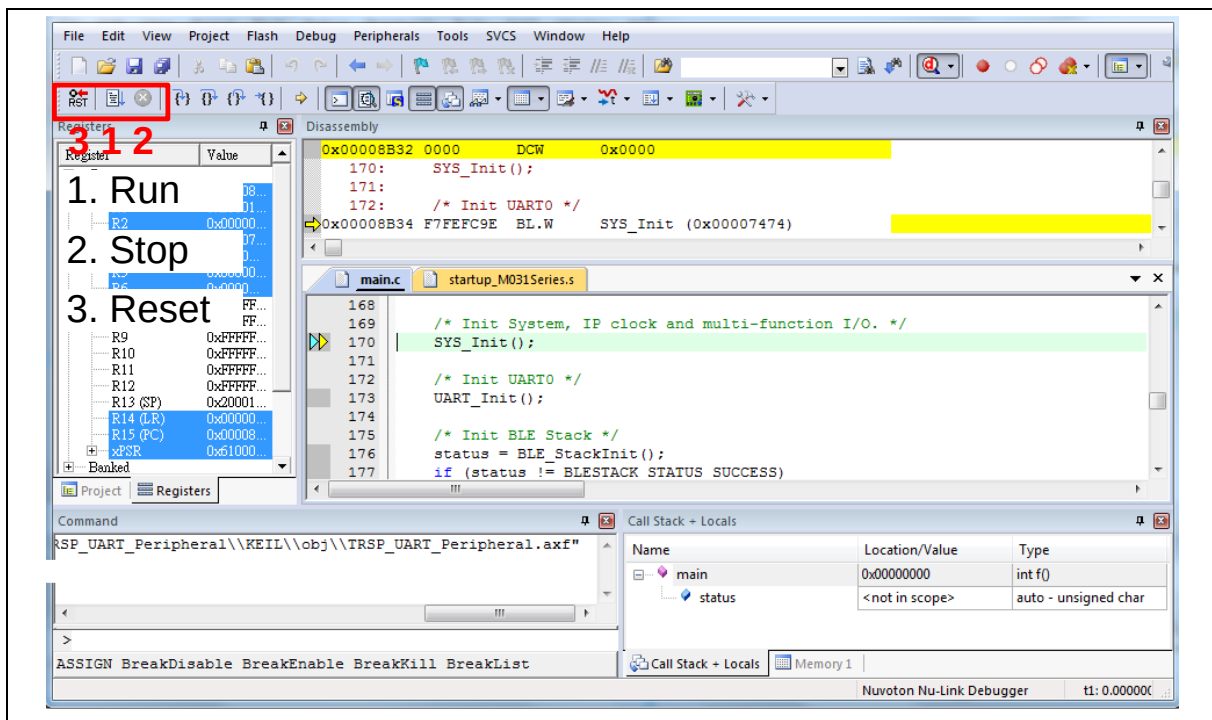
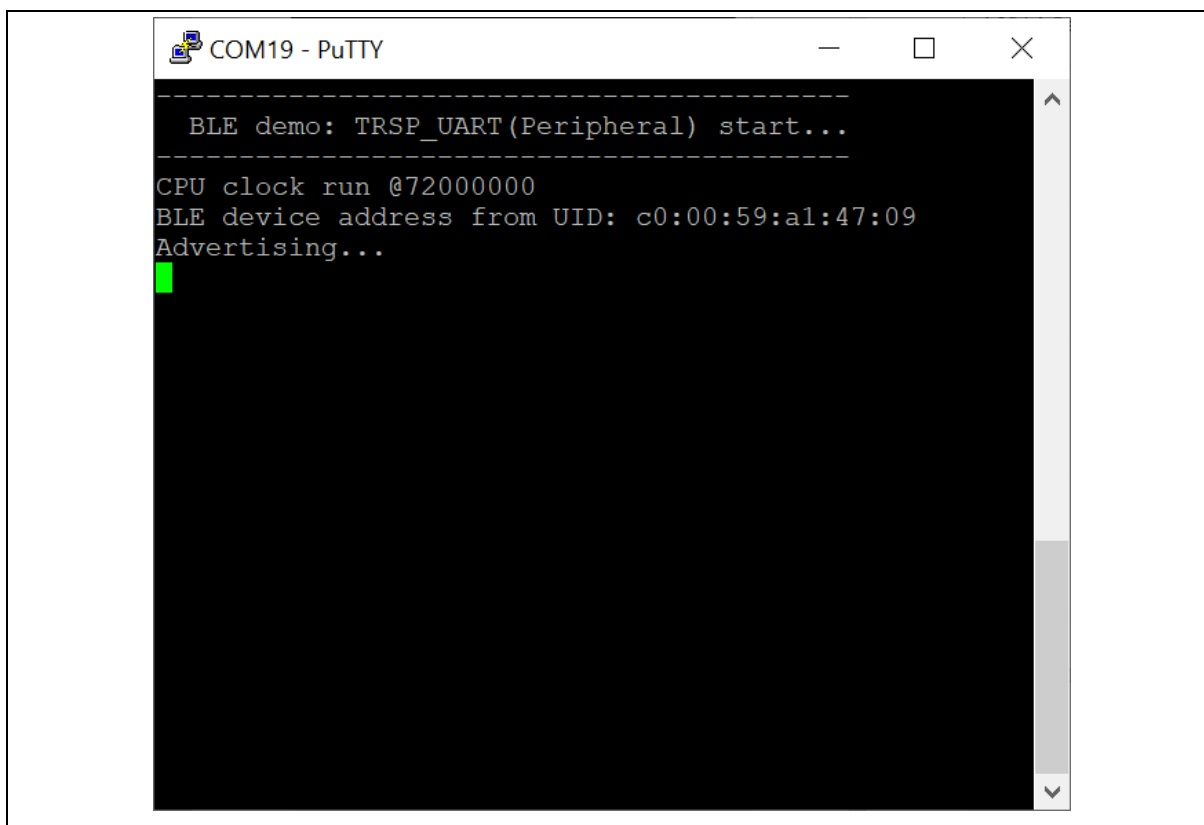

Figure 4-13 Keil MDK Debug Mode
Figure 4-14 Debug Message on Serial Port Terminal Windows
4. Figure 4-13 shows the debug mode under Keil MDK. Click **Run** and the debug message will be printed out as shown in Figure 4-14. User can debug the project under debug mode by checking source code, assembly language, peripherals' registers, and setting breakpoint, step run, value monitor, etc.